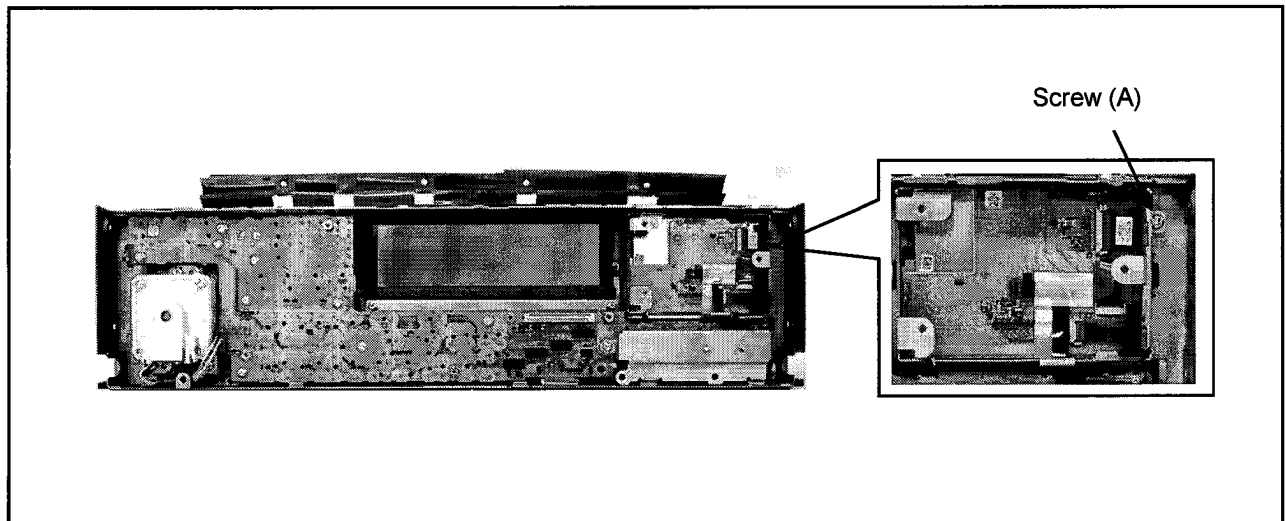

Figure 7-1
3. Unscrew a screw (A) as shown in figure 7-1 and remove the LCD monitor.